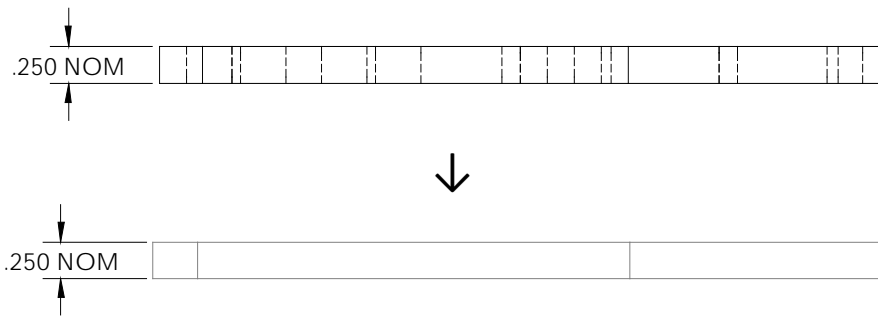

Figure 10.5 – Elevation view with and without hidden lines
- Elevation view of part should be shown without hidden lines (Figure 10.5).